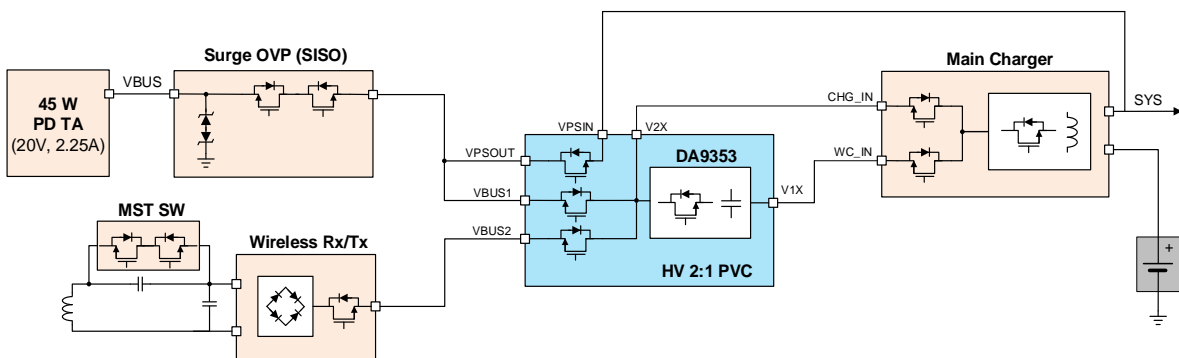

Figure 9: DA9353 Charging System Diagram 3
- Bypass to SYS test mode support (no need for SIDO OVP); Charging System Diagram 3, see Figure 9.